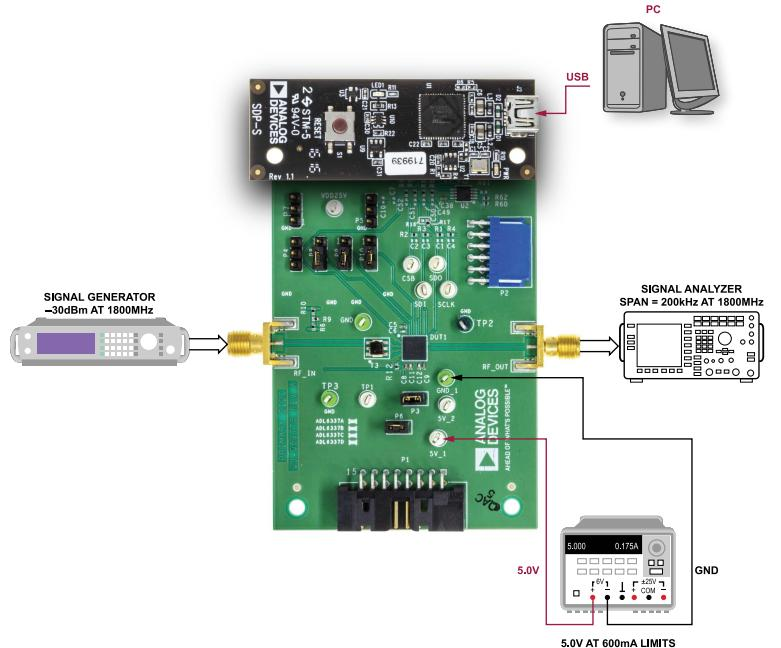
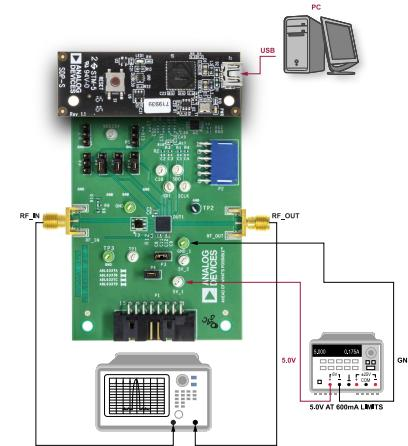

Figure 1. ADL6337-EVALZA/ADL6337-EVALZB/ADL6337-EVALZC/ADL6337-EVALZD Typical Measurement Setup (Option 1)
Figure 6. ADL6337-EVALZA/ADL6337-EVALZB/ADL6337-EVALZC/ADL6337-EVALZD Measurement Setup with Network Analyzer (Option 2)
Network Analyzer	Connect to one port on the network analyzer (see Figure 6)
Signal Generator	Set the source to -30 dBm output signal level. (see Figure 1)
Spectrum Analyzer	Connect to port (see Figure 1)
1. Configure the hardware according to the Hardware Setup section and shown in Figure 1 or Figure 6.